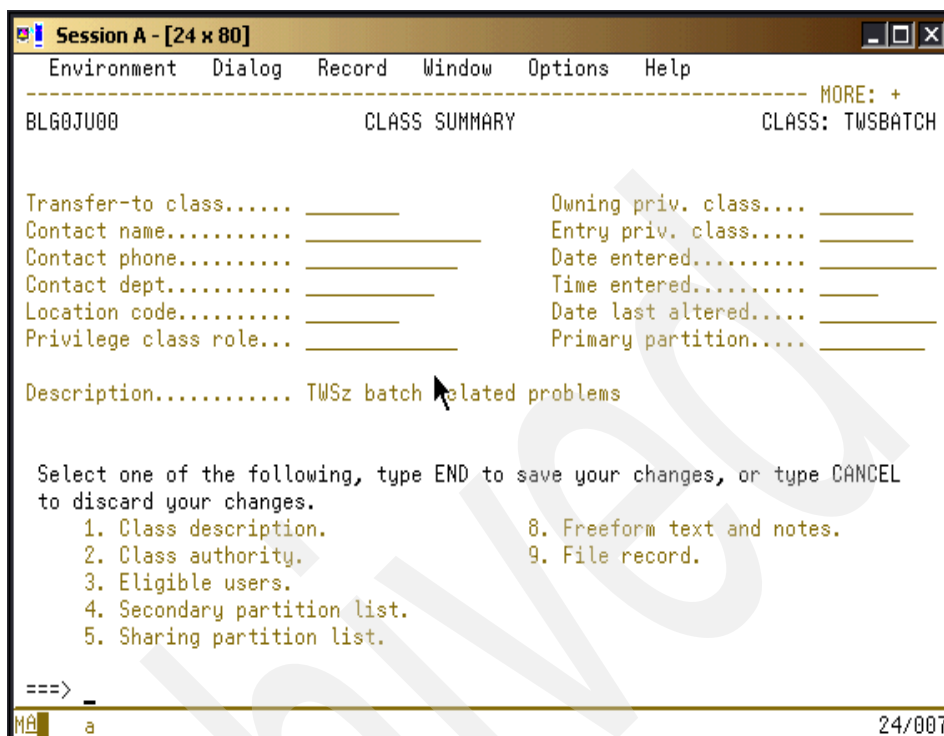

Figure 2-8 Class summary panel
3. Complete these fields, press **PF3**, or type **end** and press Enter. This saves the data and takes you to the CLASS SUMMARY panel shown in Figure 2-8 on page 62.